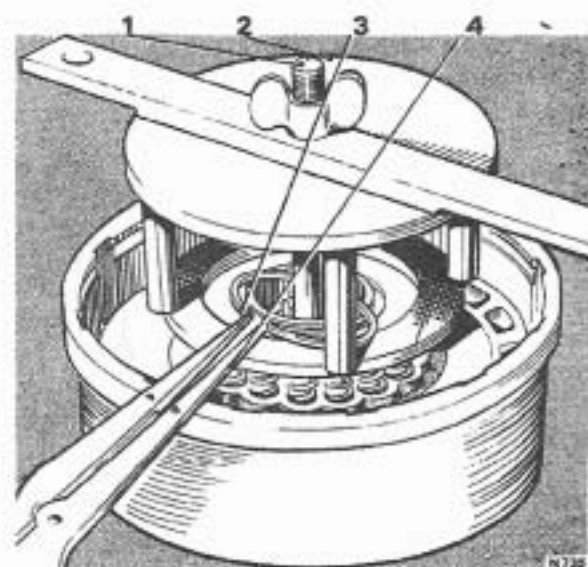

FIG. T250 REMOVING AND FITTING THE DIRECT CLUTCH HOUSING SNAP RING
6. Using clutch spring compressor RH 7965 (J-4670) in conjunction with rear clutch spring compressor RH 7967 (J-6129) and adapter RH 7966 (J-21664), compress the clutch return springs and remove the snap ring (see Fig. T250).